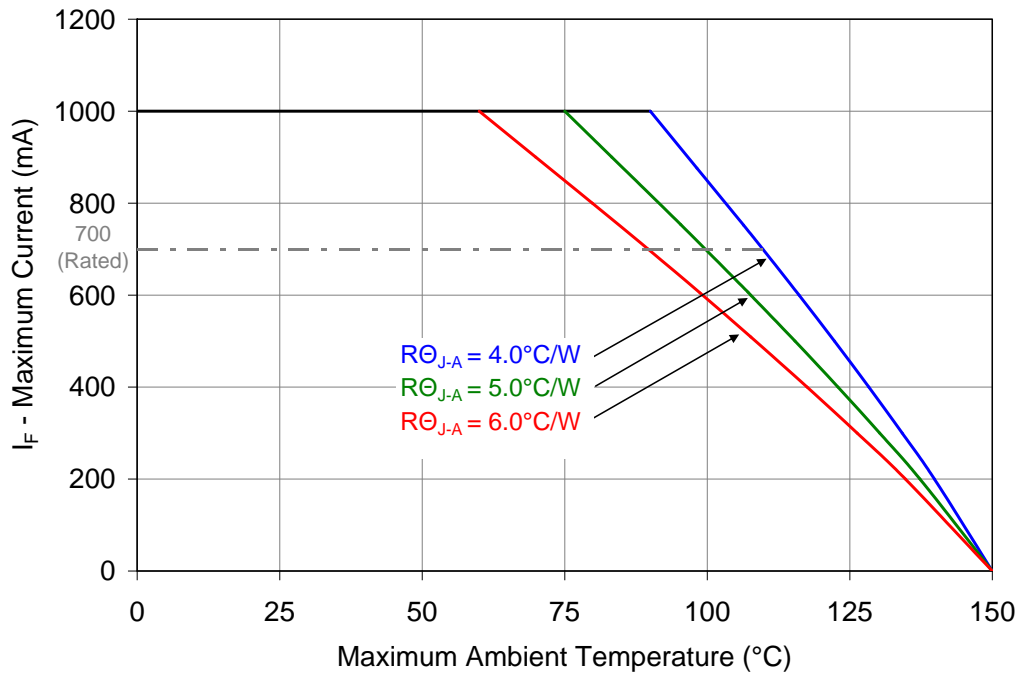

Figure 11: Maximum forward current vs. ambient temperature based on  $T_{J(\text{MAX})} = 150^\circ\text{C}$ .
- Maximum DC forward current (per die) is determined by the overall thermal resistance and ambient temperature. Follow the curves in Figure 11 for current derating.
Notes for Figure 11: